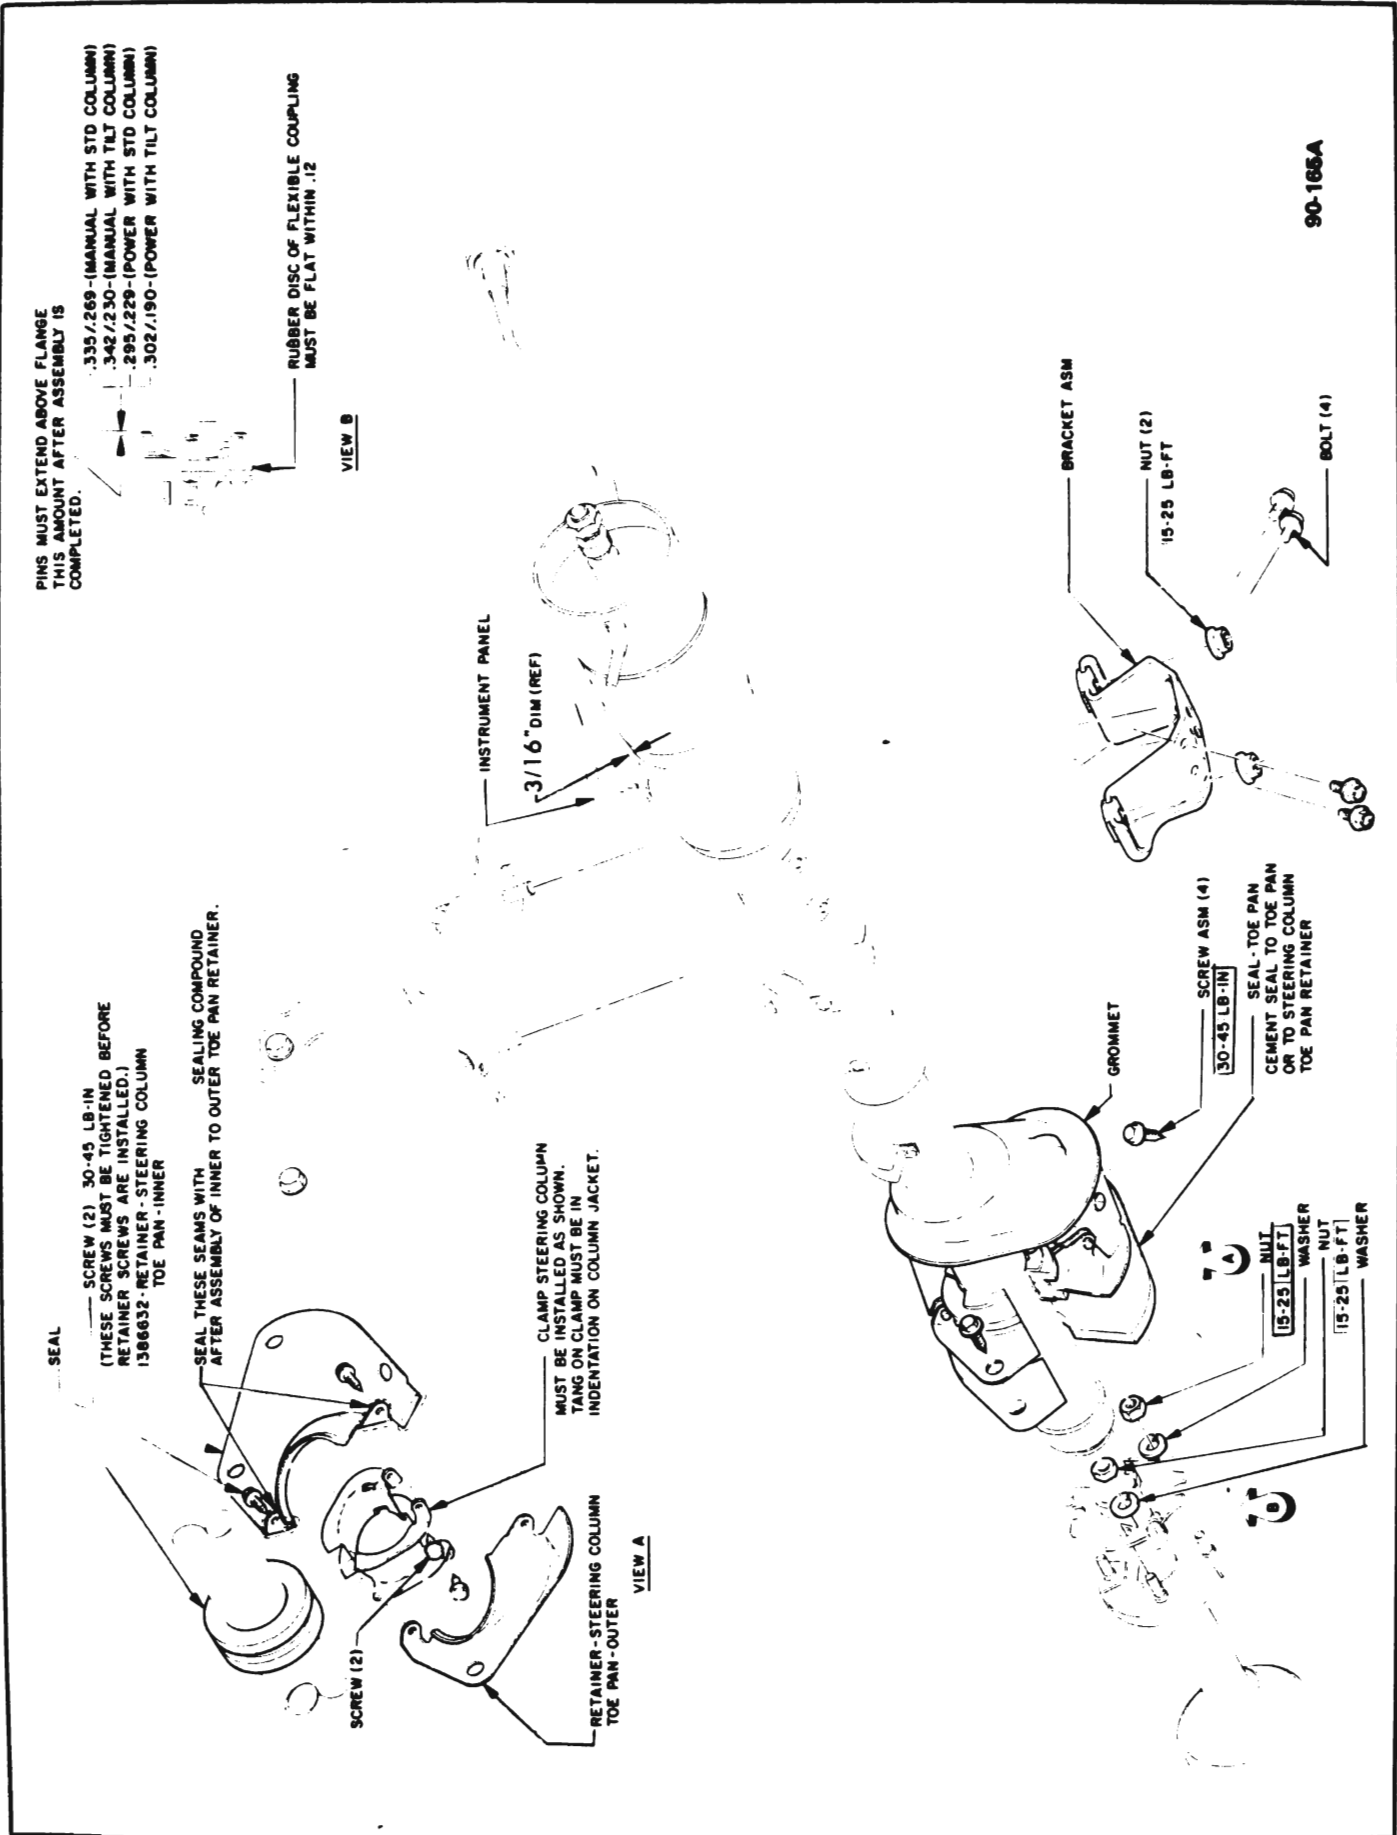

Figure 90-97 - 45-46-48000
1. Position steering column in car and position the flexible coupling to the steering gear stub shaft. Tighten flexible coupling pinch bolt to 30 lb. ft. See Figure 90-97 or 90-98.